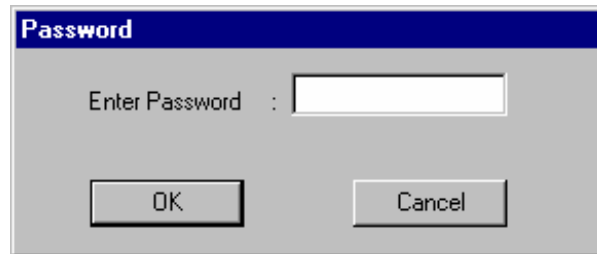

Figure 11-4: Password Dialog Box
10. Click OK to continue. The Password dialog box appears (Figure 11-4) asking for the password.
- Click OK to continue. If the password feature is enabled, the Password dialog box appears (Figure 11-4) asking for the password.